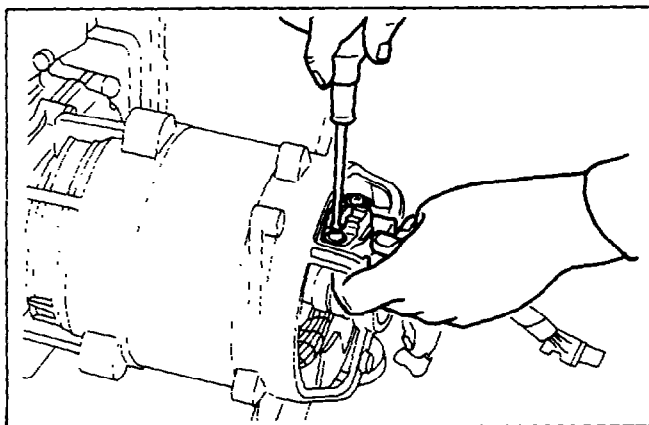

Fig. 9-4-23
- (1) Mount the brush holder base on the rear bracket with M5 x 10 screws.
- (2) To install the brush holder put the M5 x 20 screw through the brush holder, and turn the screw, keeping it vertical against the slip ring. (See Fig. 9-4-23)